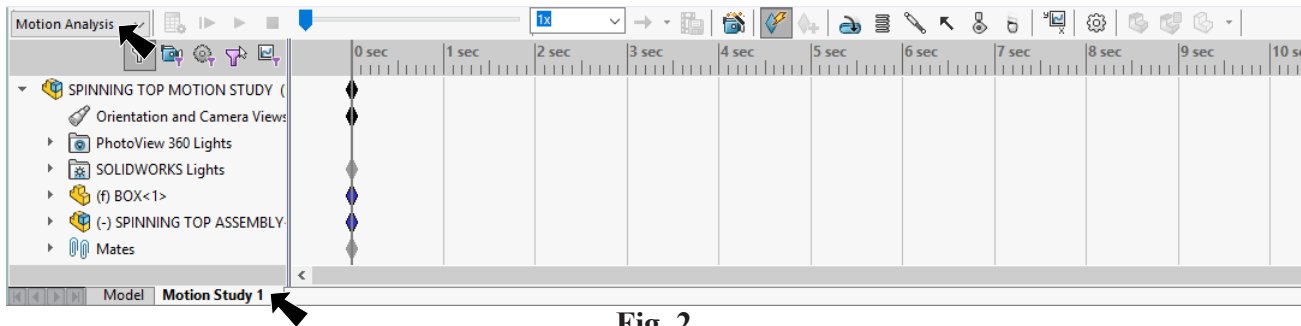

Fig. 2
Step 1. Click Motion Study 1 tab  at the lower left of the graphics area, Fig. 2.
Step 2. Set Type of Study to Motion Analysis, Fig. 2.